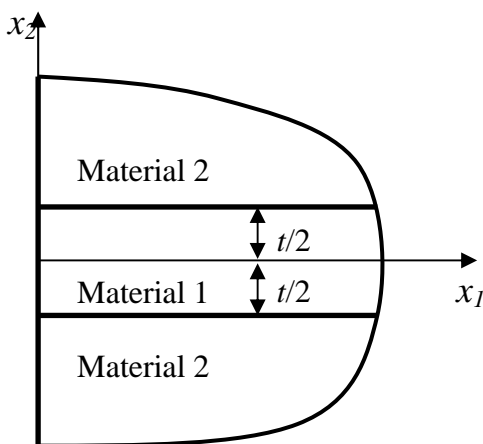
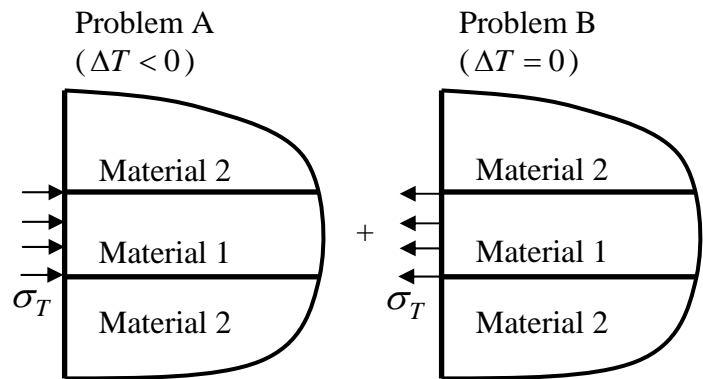

Figure 1
Figure 2
5. A thin layer of material 1 is sandwiched between two thick blocks of material 2 (see Fig. 1). Material 1 has a smaller coefficient of thermal expansion than material 2 (i.e., $\alpha_1 < \alpha_2$). Upon cooling ($\Delta T < 0$), material 1 develops a biaxial compressive stress of magnitude σ_T in the plane of the laminate, while the two thick blocks are nearly stress free. Of course, this statement is only valid far away from the surface $x_1 = 0$. In fact, it was observed in experiments that the thin layer cracked near the edge along the x_1 axis, indicating that a tensile stress σ_{22} developed there. Linear superposition can be used to find the magnitude of this tensile stress, as illustrated in Fig. 2. In Problem A, there is a temperature change $\Delta T < 0$ and we apply a compressive traction of magnitude σ_T on the edge of the thin layer, so that the stress field in the thin layer in Problem A is uniform and equi-biaxial. In problem B, we apply a tensile traction on the edge of the thin layer. The original problem is the superposition of Problem A and Problem B. For simplicity, assume that the two materials have identical elastic properties (E and ν).
Hint: The solution to Problem B can be found by using the solution to the Flamant Problem with a concentrated line force acting on a half space, for which the Airy stress function takes the form, $\phi(r, \theta) = Ar\theta \sin \theta$, where A is a constant to be determined, and $\theta = \tan^{-1}(x_2/x_1)$ for the coordinates in Fig. 1. Note that you only need to determine the stresses along $x_2 = 0$ and hence you may find it convenient to convert an integration with respect to x_2 to an integration with respect to θ , i.e., along $x_2 = 0$, $dx_2 = -x_1 d\theta / \cos^2 \theta$.